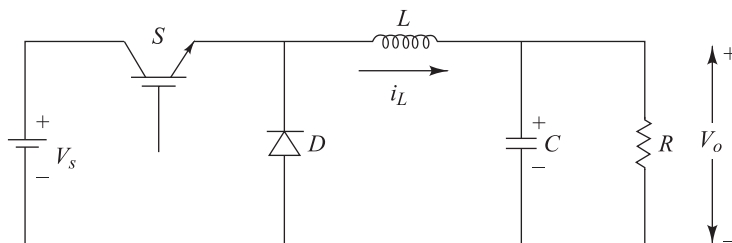

Fig. MCQ. 8.18
- 8.18 In the chopper circuit shown, Fig. MCQ. 8.18 the input dc voltage has a constant value V_s . The output voltage V_o is assumed ripple-free. The switch S is operated with a switching time period T and a duty ratio D . What is the value of D at the boundary of continuous and discontinuous conduction of the inductor current i_L ?